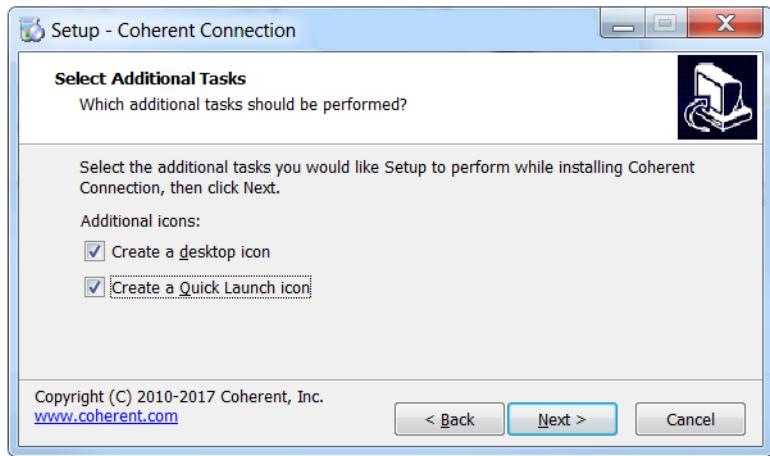

Figure 5-13. Set Desktop or Quick Launch Icon
10. You can create an icon for the software either on your desktop or for a Quick Launch (or both). As shown in Figure 5-13, click the appropriate check box, and then click Next.